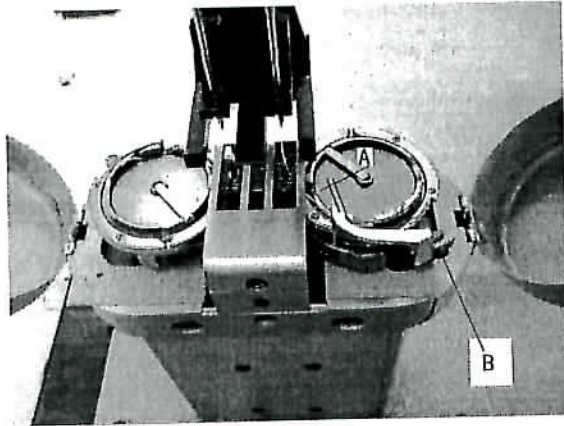

Fig.24
**16. ADJUSTMENT OF BOBBIN CASE OPENER (Fig. 24)**